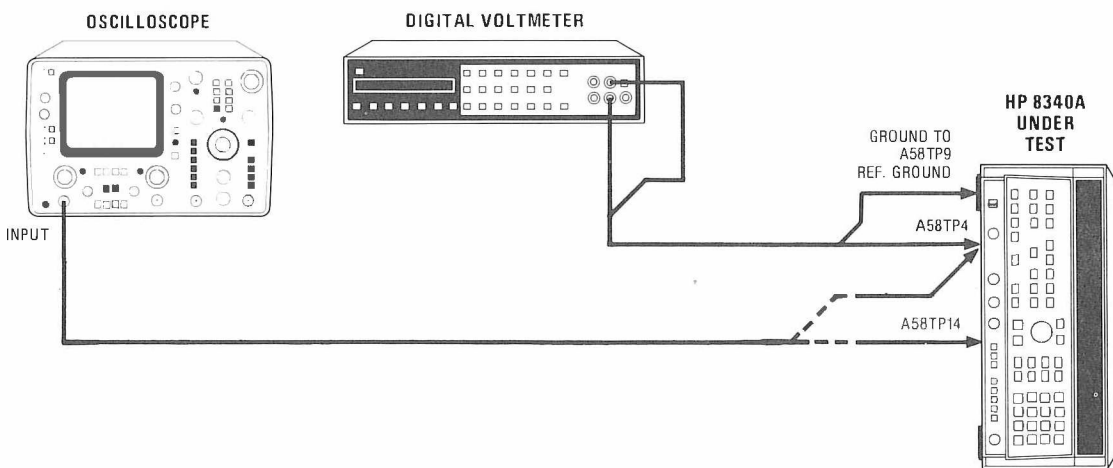

Figure 5-31. Sweep Generator Test Setup
1. Position the 8340A in the Test Position as shown in Figure 5-31 with bottom cover removed. Connect oscilloscope to A58TP4. Allow one-half hour warm up time.